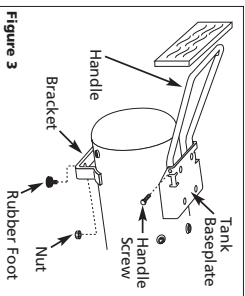

Figure 3
2. Insert handle into both sides of tank baseplate. Squeeze handle to fit into special openings in baseplate (See Figure 3).
The items marked with an asterisk (*) in Figure 3 were shipped loose with the unit. Assemble as follows: